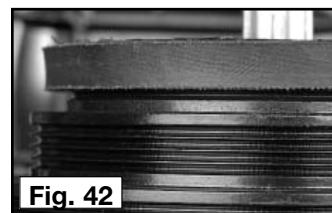

Fig. 42
**NOTE:** Fig. 41 shows the proper seating for the top belt, with the small bit of metal showing above the black belt. Fig. 42 shows improper seating for the top belt with no metal showing above the black belt.